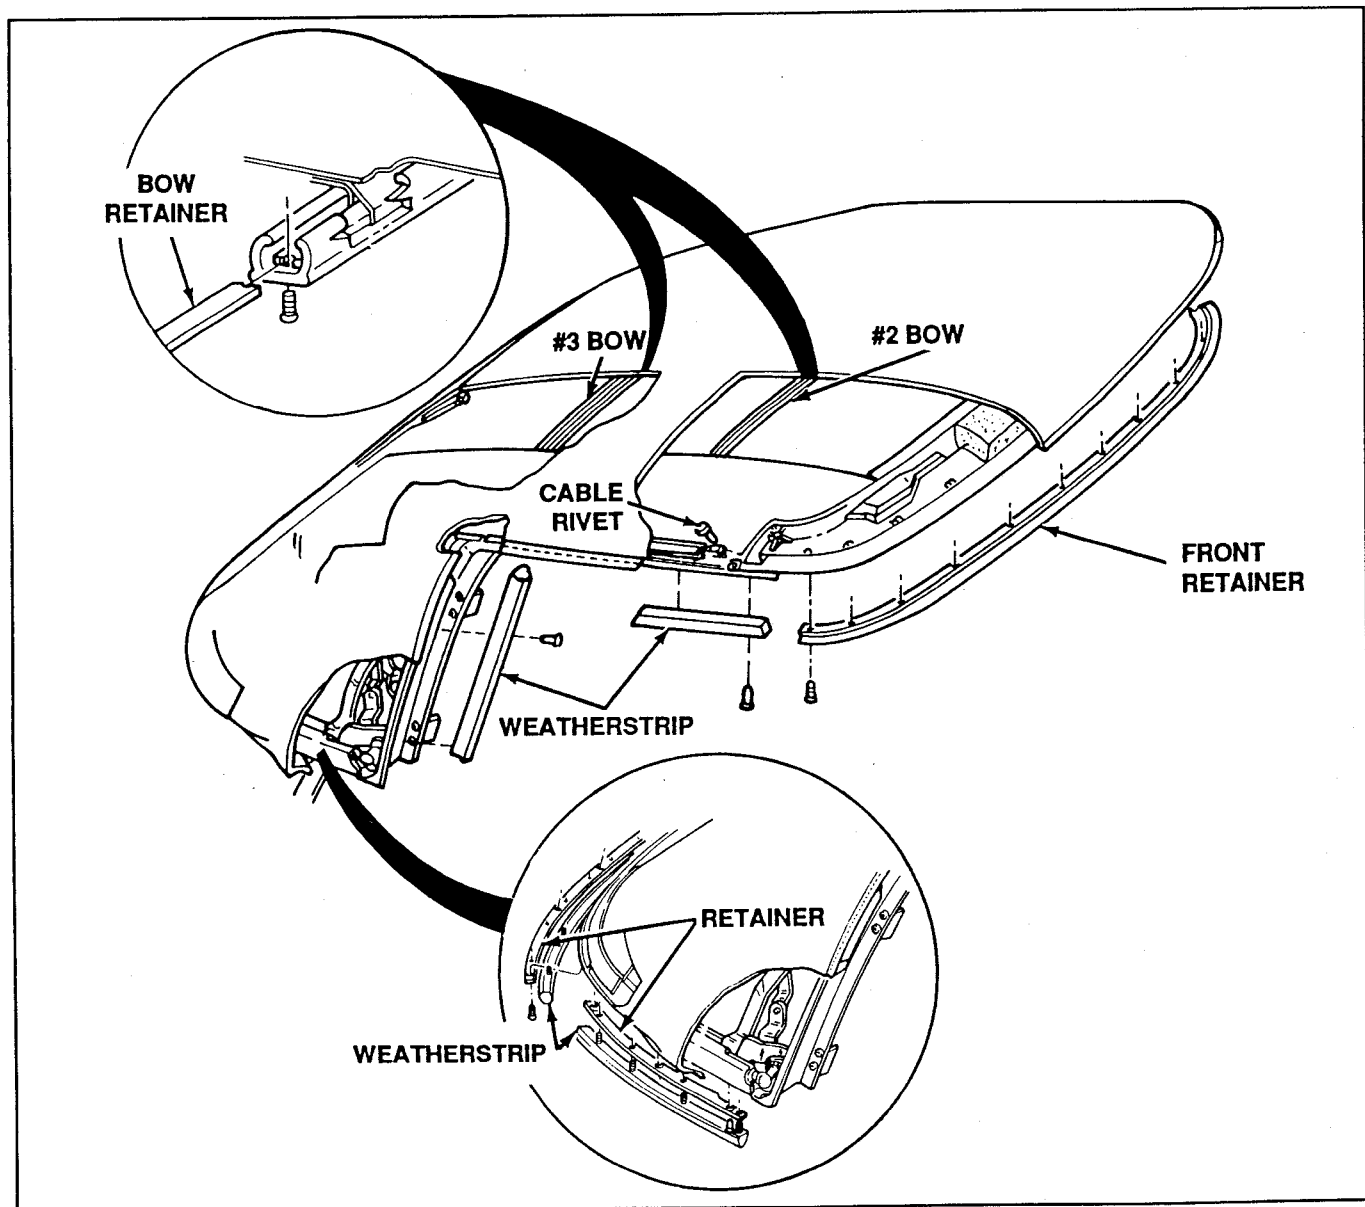

Figure 60. Install Bow Retainers
5. Install all weatherstrips and weatherstrip retainers and front retainer (Fig. 60).